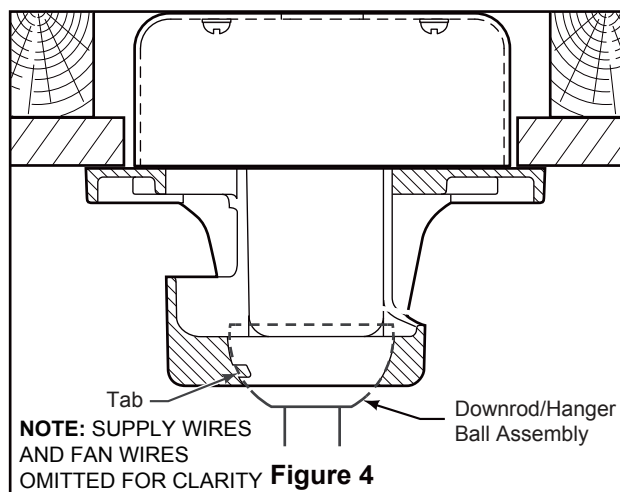

Figure 4
4. Slide dowrod into the dowrod support on top of the motor. Install the clevis pin by aligning the holes in the dowrod support with holes in the dowrod. Secure clevis pin with hairpin clip. Tighten the two set screws in the dowrod support. (Figure 4)
- ☐ 3. Carefully lift the fan and seat the downrod/hanger ball assembly onto the hanger bracket that was just attached to the outlet box. Be sure the groove in the ball is lined up with tab on the hanger bracket. (Figure 4)
3. Connect green wires from hanger bracket and motor housing to bare (ground) wire using wire connector. Connect black wire from receiver unit marked “AC IN L” to black supply wire using wire connector. Connect white wire from receiver unit marked “AC IN N” to white supply wire using wire connector. Connect white wire from receiver unit marked “TO MOTOR N” to white wire from fan using wire connector supplied with receiver unit. Connect black wire from receiver unit marked “TO MOTOR L” to black wire from fan using wire connector supplied with receiver unit. Lastly, connect blue wire from receiver unit to the blue fan light wire using wire connector supplied with receiver unit. (Figure 4)